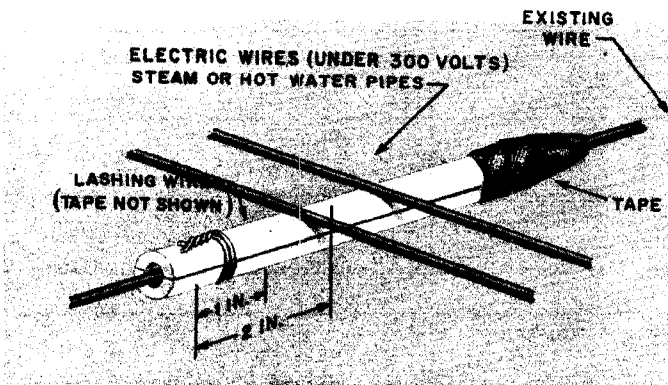

Fig. 2 – Securing Split Tubes
2. Secure split tube by placing two turns of lashing wire about 1 inch from each end of tube (see Fig. 2).